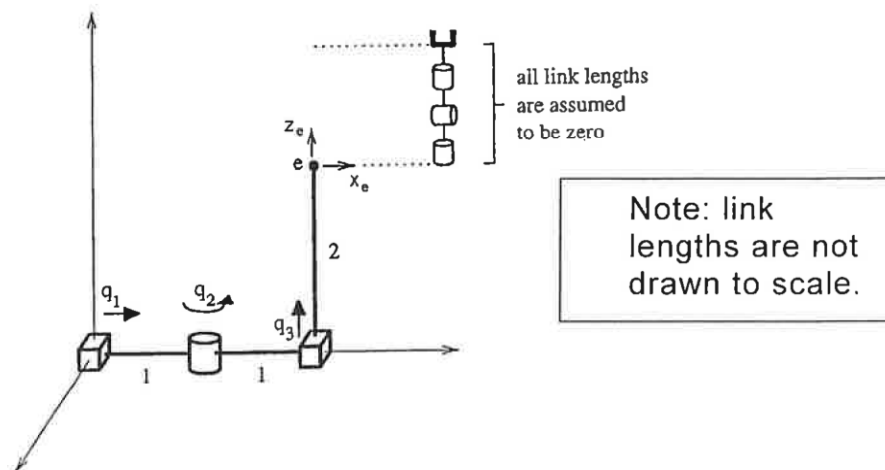

Figure 3
6. Consider the manipulator, shown in Figure 3 below, in its rest position with positive joint motion in the directions indicated.
7. For the manipulator, shown in Figure 3 question 6, without wrist: